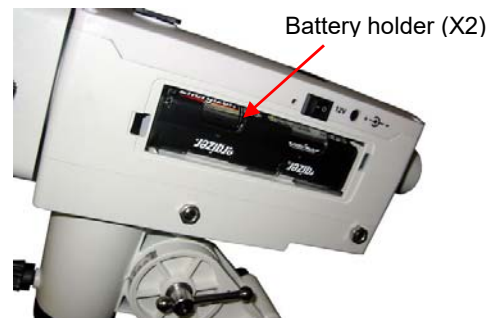

Figure 10
6. **Install Batteries and Connect Cables:** There are two battery compartments that each can hold 4 AA batteries (Figure 10). Lift the battery cover. Carefully pull out the battery holder from the compartment. Be sure not to accidentally disconnect the wires. Insert 4 AA batteries into each holder. Replace the holder back into the battery compartment and replace the lid.